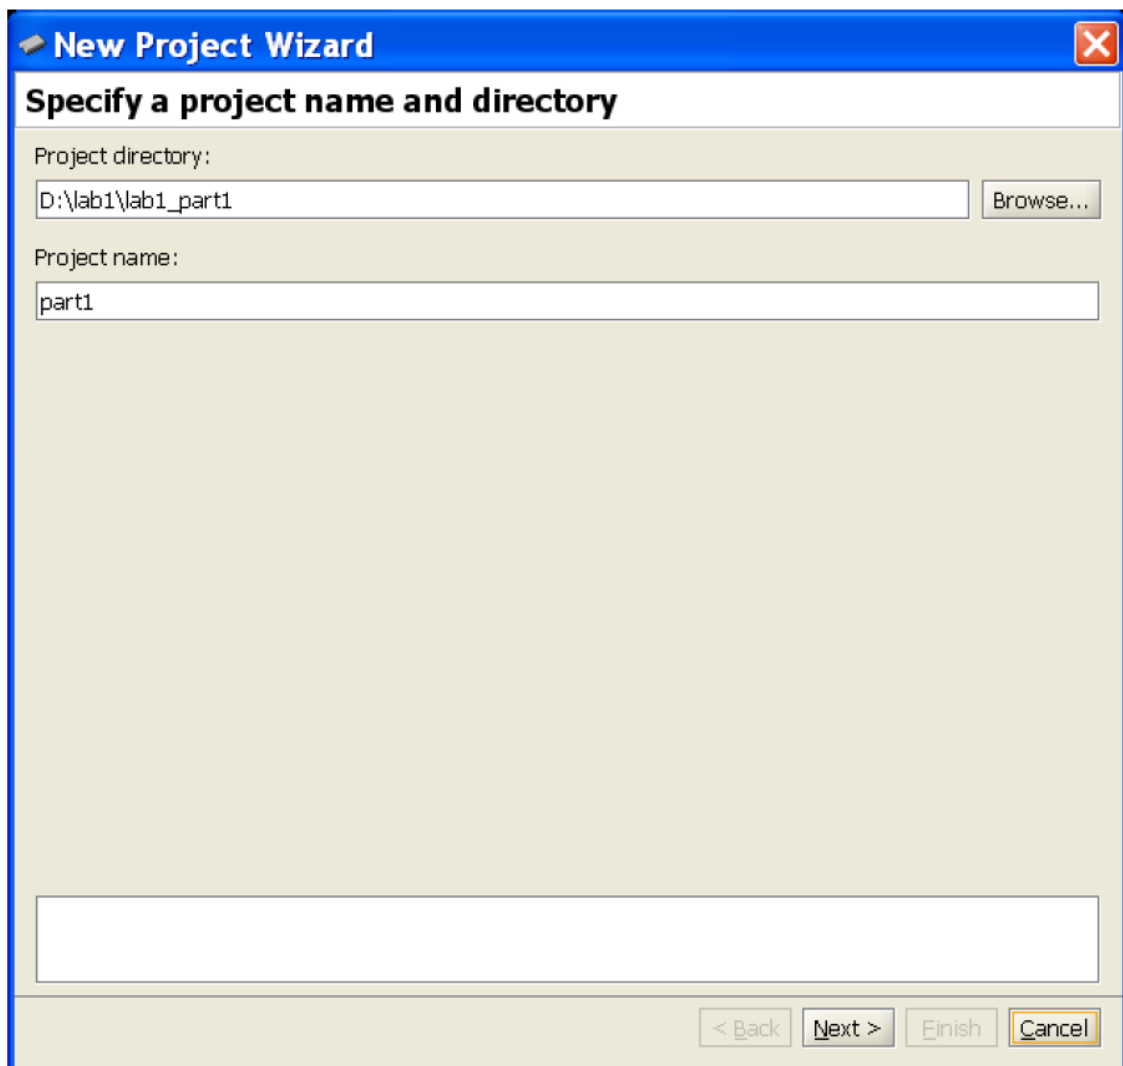
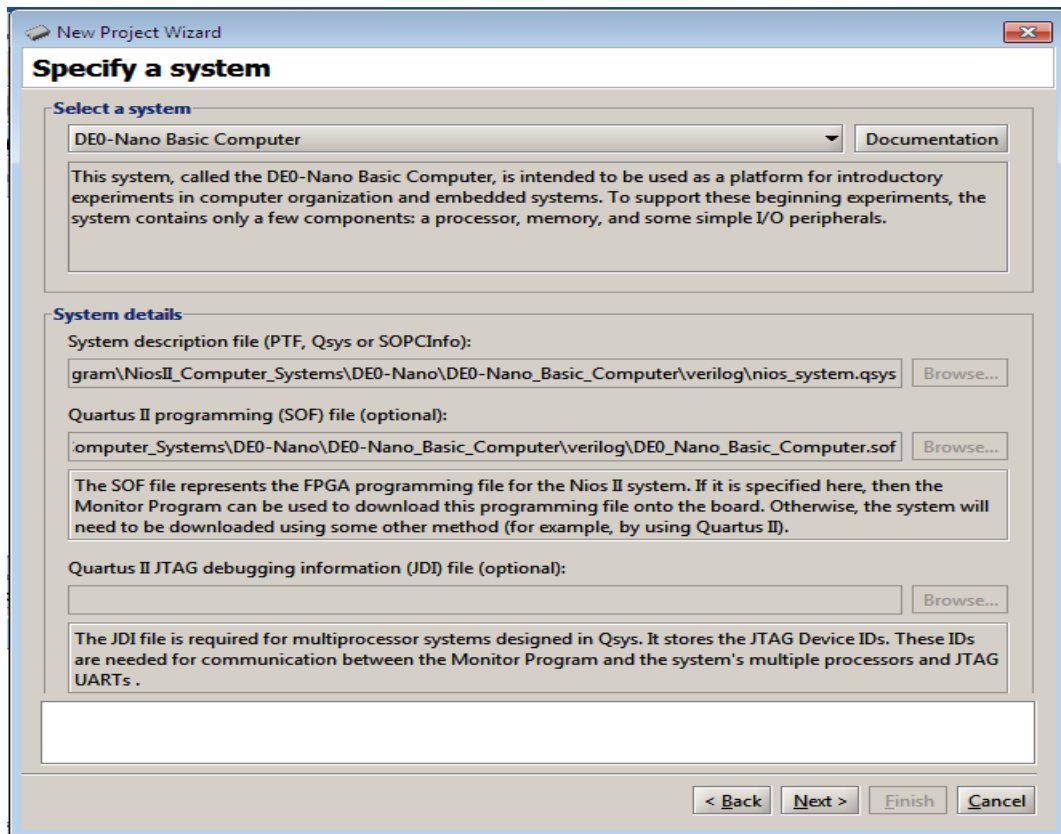

Figure 2: Specify the directory and the name of the project.
Figure 3: Specification of the system.
To run an application program it is necessary to create a new project. Select File > New Project to reach the window in Figure 2. Give the project a name and indicate the directory for the project; we have chosen the project name part1 in the directory lab1_part1, as indicated in the figure. Click Next, to get the window in Figure 3.
5. The Monitor Program will display the disassembled view of the code loaded in the memory, as indicated in Figure 13. Note that the pseudoinstruction `movia` in the original program has been replaced with two machine instructions, `orhi` and `addi`, which load the 32-bit address `LIST` into register `r4` in two 16-bit parts (because an immediate operand value is restricted to 16 bits). Examine the disassembled code to see the difference in comparison with the original source program. Make sure that you understand the meaning of each instruction. Observe also that your program was loaded into memory locations with the starting address zero. These addresses correspond to the SDRAM memory, which was selected when specifying the system parameters. The DE0-Nano Basic Computer has two more memories which are the on-chip memory (i.e. the memory on the FPGA chip) and the SRAM chip on the DE0-Nano board. See the document Basic Computer System for Altera DE0-Nano Board for full information. This document can be accessed by clicking on the Documentation button in Figure 3.